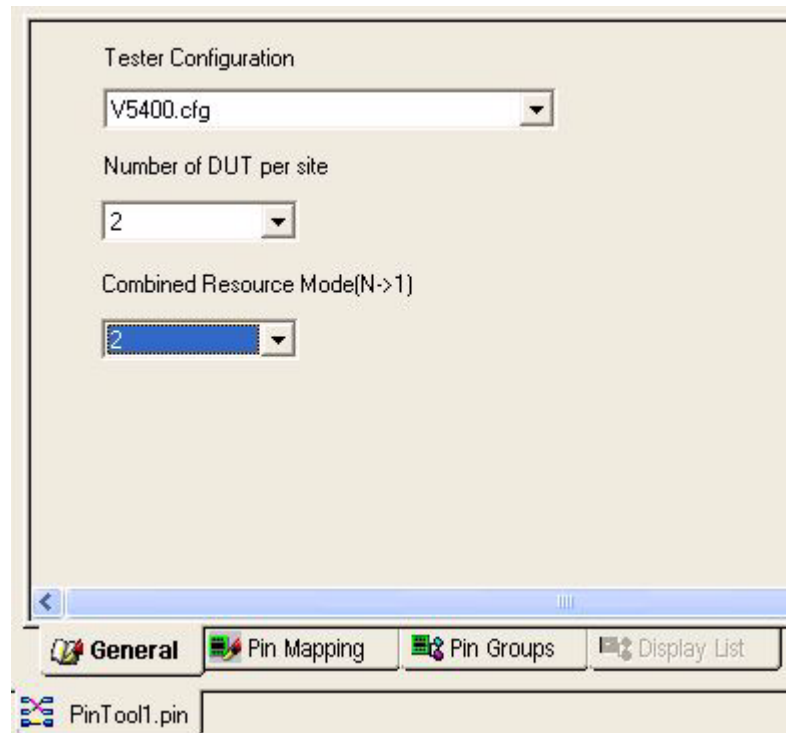

Figure 3-26. Configured General Tab
- 5 Selecting 2 specifies CRM-2 and displays the configured General General tab (Figure 3-26).